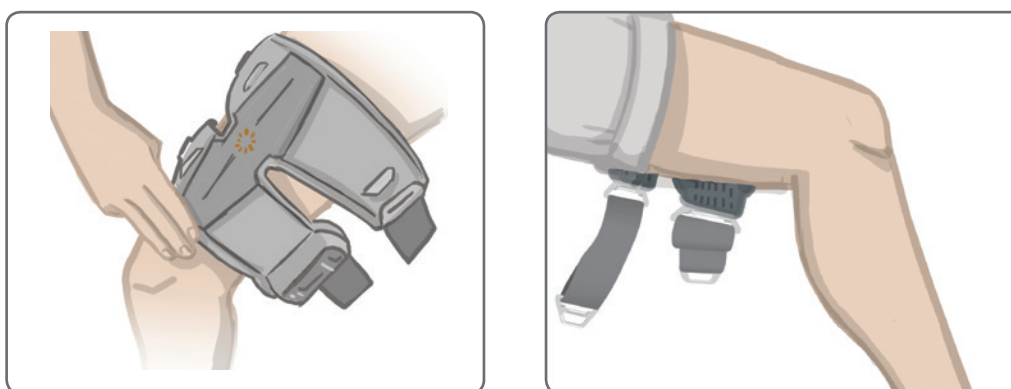

Figure 8-18: Correct Position of the Thigh FS Cuff Locator
4. Place the thigh FS Cuff locator (a tactile finger mark) on the midline of the thigh, approximately three finger widths proximal from the patella if stimulating the quadriceps or from the popliteal fossa if stimulating the hamstrings. See Figure 8-18.